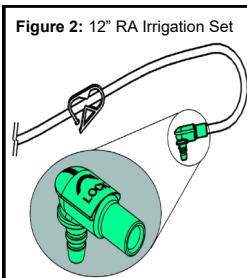

Figure 2: 12" RA Irrigation Set
- (1) 12" Right Angle Irrigation Set (Fig. 2)